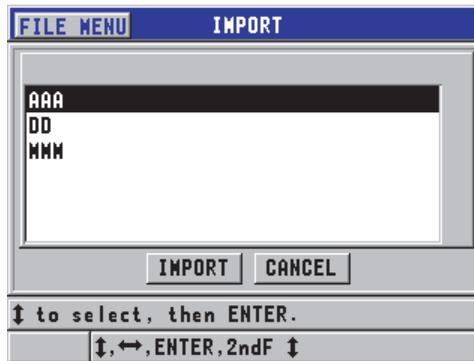

Figure 11-3 Example of the IMPORT screen
5. In the **IMPORT** screen (see Figure 11-3 on page 185):